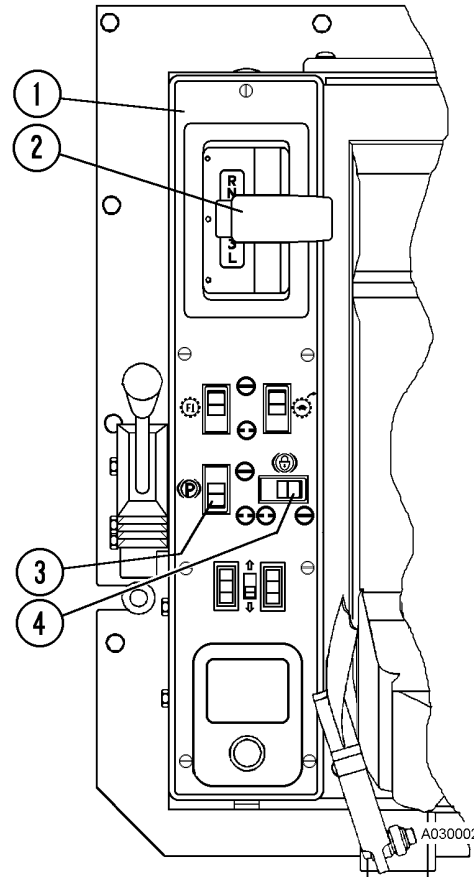

FIGURE 30-2. CONSOLE CONTROLS
- b. Move transmission range selector (2, Figure 30-2) to the D position and gradually increase engine speed to 1700 rpm. The truck must remain stationary. (Placing the range selector in D ensures that the transmission will start in F2.)
- b. Move transmission range selector (2, Figure 30-2) to any position other than N; verify central warning lamp (6) on the left pod flashes.